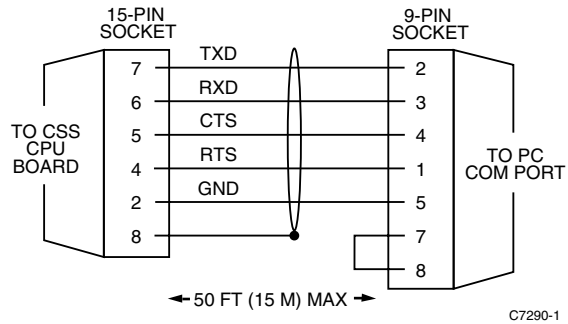

Fig. 7. CSS CPU to XBS Connection: 14507083-001 — 25 ft. (7.5 m).
- ❶ Verify CSS main switch is in OFF (○) position. Then connect power cord from CSS main plug to power source.
- ❷ Connect CSS to PC/Bus Interface as follows:
- Connect 14507083-001 CSS-to-PC cable (Fig. 7) from upper 15-pin connector on CSS CPU Board to COM1 (or COM2) serial port on PC (Fig. 3 and 6).